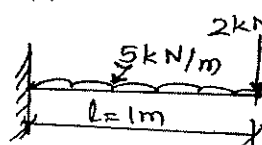

Fig.Q5(b)
- b. A cantilever beam of span 1 m is subjected to a UDL of 5 kN/m and a point load of 2 kN as shown in Fig.Q5(b).  $E = 200$  GPa,  $I = 4 \times 10^{-6} \text{ m}^4$ . Find (i) Deflections at the ends (ii) Reactions at the support.